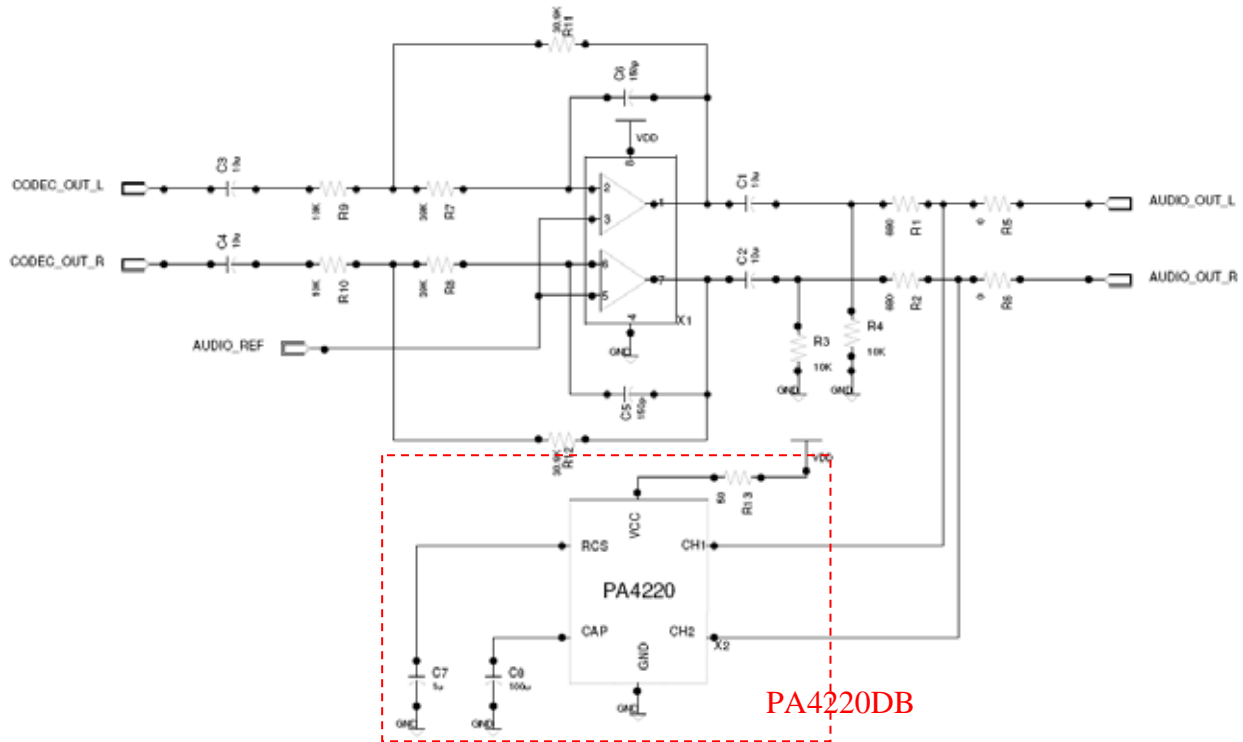

Figure 3: Output stage of a set-top box showing the connection scheme with PA4220DB
The PA4220DB is a PCB that demonstrates the working of the PA4220 IC. The PA4220 suppresses pop-click noise at startup and shutdown. The PA4220 is a shunt device connected as shown in the typical application figure 3. The click-pop noise is generated at the coupling capacitors while the device is starting up as well as shutting down. The PA4220 detects the ramping of DC voltage and pulls the o/p lines in a low impedance state hence suppressing the pop noise. Capacitor C1 determines the time for which the o/p line is pulled to low impedance state during startup. Capacitor C3 holds the charge to provide drive to the internal switches during shutdown.
The PA4220DB can be used to demonstrate the functioning of the PA4220 by inserting this board as shown in Figure 3.
1. Connect the PA4220DB as shown in figure 3 (Ch1 and Ch2 o/p connected after the series resistors R1 and R2).